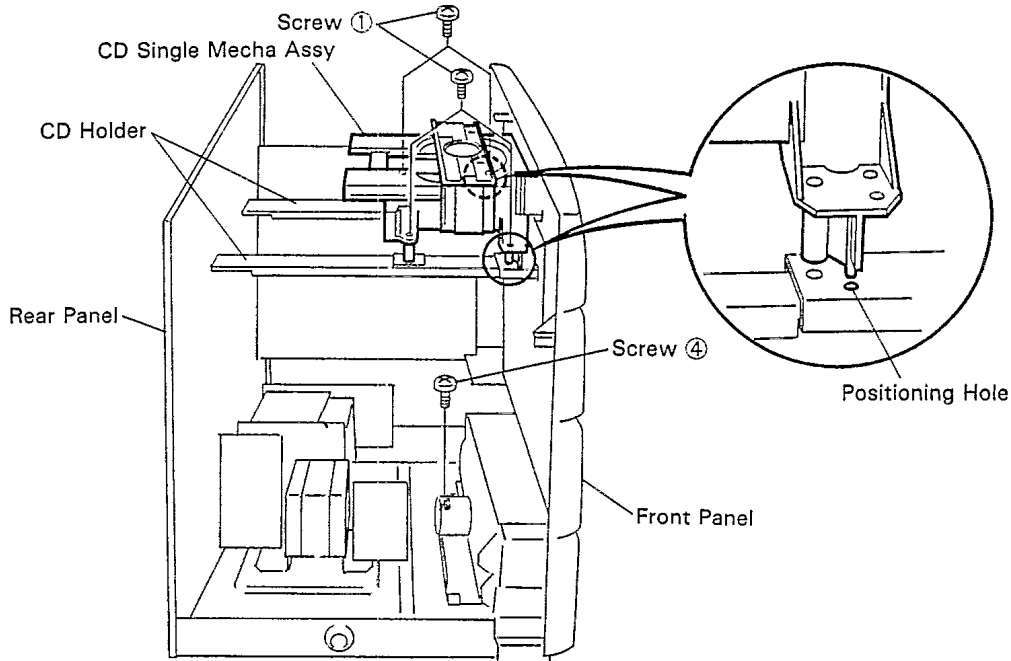

Fig. 1 Remove the CD Single Mecha Assy
3. Remove the three screws ③ and the screw ④ (Refer to Fig. 1).